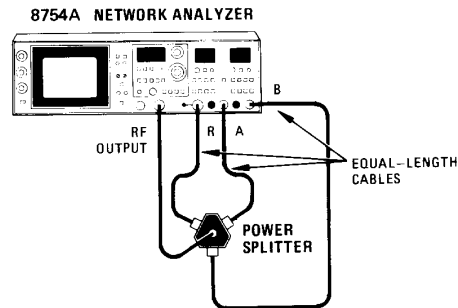

Figure 4-18. Magnitude Display Accuracy Test Setup
1. Connect equipment as shown in Figure 4-18.
- SWEEP WIDTH MHz . . . . . 0 (CW)